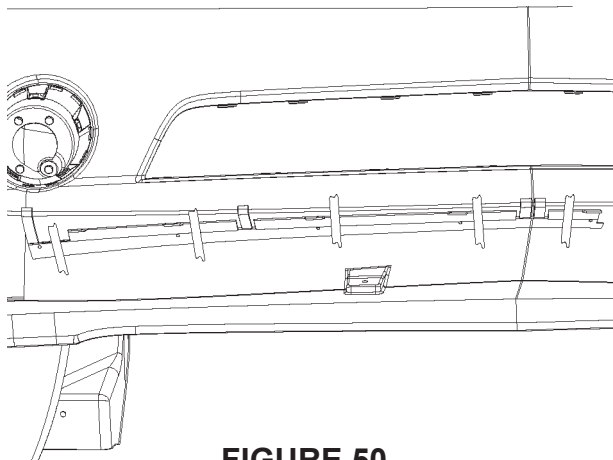

FIGURE 50
7. Use the locating features to position the RH clamp onto vehicle fascia and tape into position. Refer to figure 50.